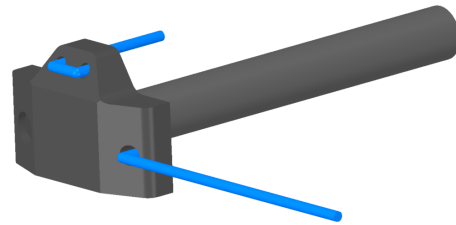

Figure 4 Spreader end cap cords
3. Tensioning cords are attached to the end caps of each spreader. Rotate the end cap to orient as shown in Figure 4.
Start by taking the free end of a peripheral cord and pass the toggle at the end of the cord through the left-hand hole in the adjacent spreader to the right (Figure 4).